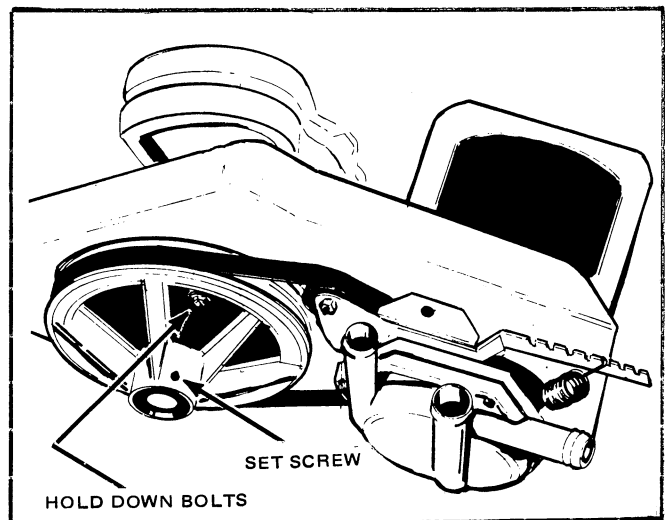

Figure 106
2. Remove screws and nuts that fasten the support plate to the legs of leg-and-dome assembly. Lift the complete transmission, support plate, motor and pump out, and lay it on one side, *Figure 106*.